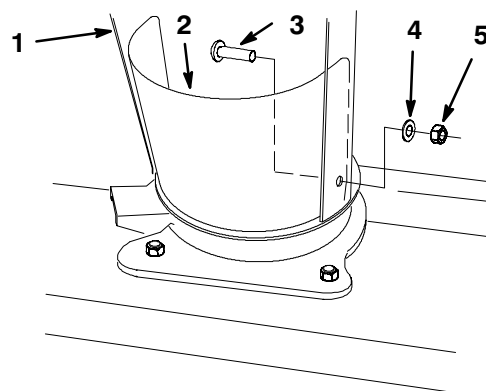

Figure 5
7. Install discharge chute and deflector shield onto housing with (3) 5/16 x 3/4" carriage bolts (heads to inside), (3) 5/16" washers and (3) 5/16" locknuts (Fig. 5).